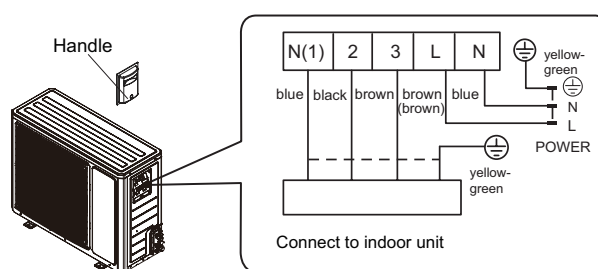

Fig.23
- (1) Remove the wire clip; connect the power connection wire to the wiring terminal according to the color; fix it with screws.(As show in Fig.23)